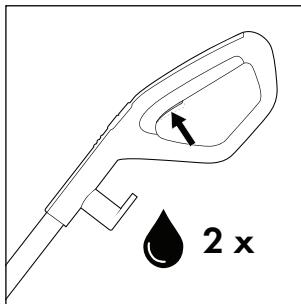
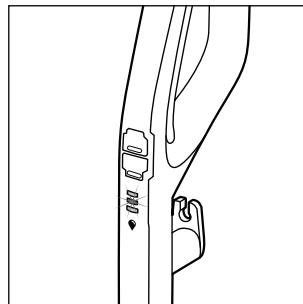

Fig. 18
Fig. 19
- ◆ Before each use, press the cleaning solution switch  **15** twice briefly to add cleaning solution to the rotary brush **6** so that it is ready for use (see fig. 18). The cleaning solution display  **12** flashes alternately blue when continuous spray function is activated or the cleaning solution switch  **15** is being held down (see fig. 19).